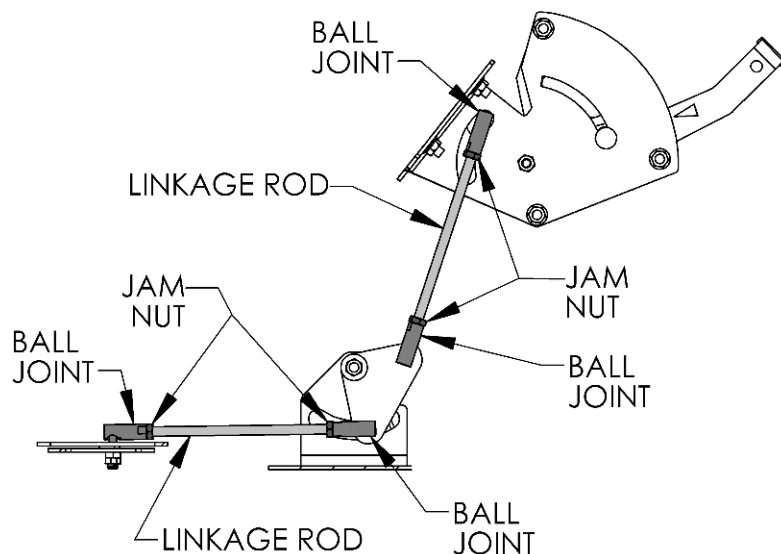

FIGURE 16.3
- 6) After the nuts are loosened turn the linkage rod to lengthen or shorten the rod as needed to bring the plate into the correct position as shown in **FIGURE 16.3**. Re-tighten the jam nuts on the linkage rod.
- 9) After the rods have been adjusted, verify they are correct by loosening the Flow Control Adjustment Knob and moving the Handle to Setting (4) fully open. Look inside the Hopper and verify the Holes are Fully Opened.